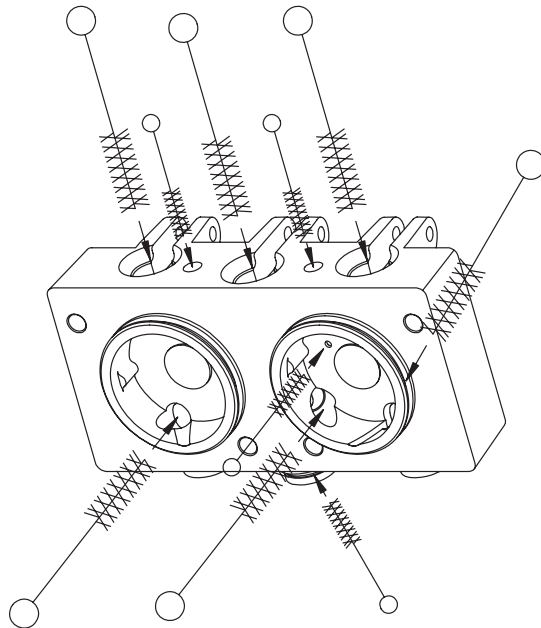

Figure 7-6 Clean head ports and openings with brush.
- b. The head plunger openings, plunger ports, O-ring grooves, dispense nozzle mounting rings, and mix ports, as shown in figure 7-6.